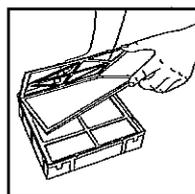

Fig. 9
- Place the Odor-Lock™ pre-filter on top of the primary permanent filter (Fig. 9). Snap the permanent pre-filter back into place.